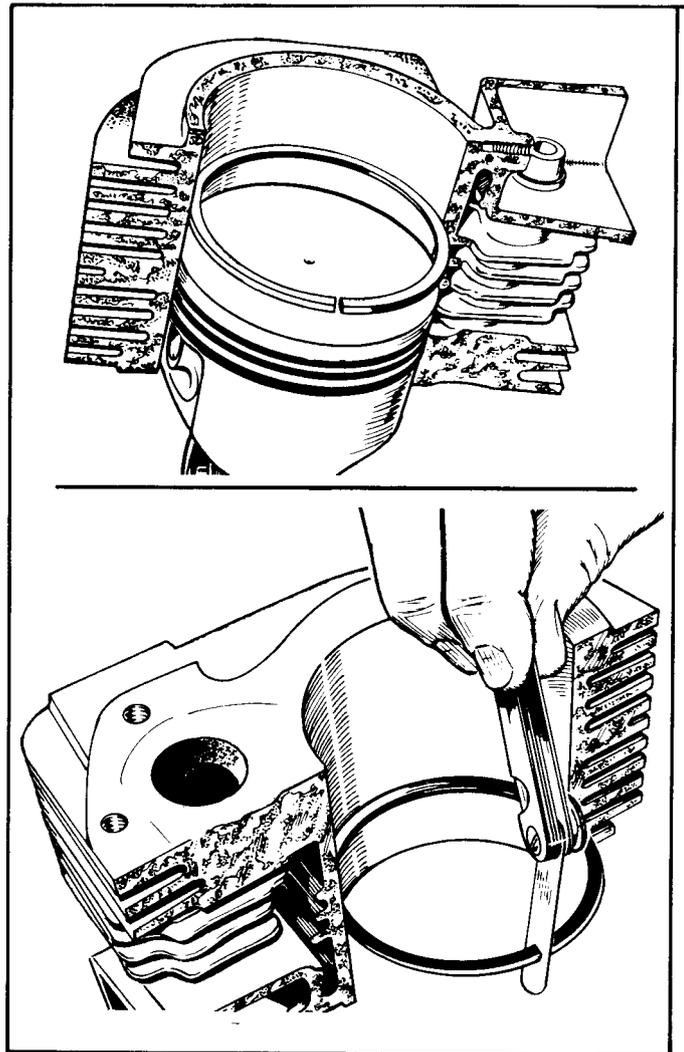

FIGURE 12. CHECKING RING END GAP
- a. Install the piston ring in the cylinder bore. Invert the piston and push the ring to the end of ring travel, about halfway into the bore, which trues the ring end gap. Check the gap with a feeler gauge as shown in Figure 12.